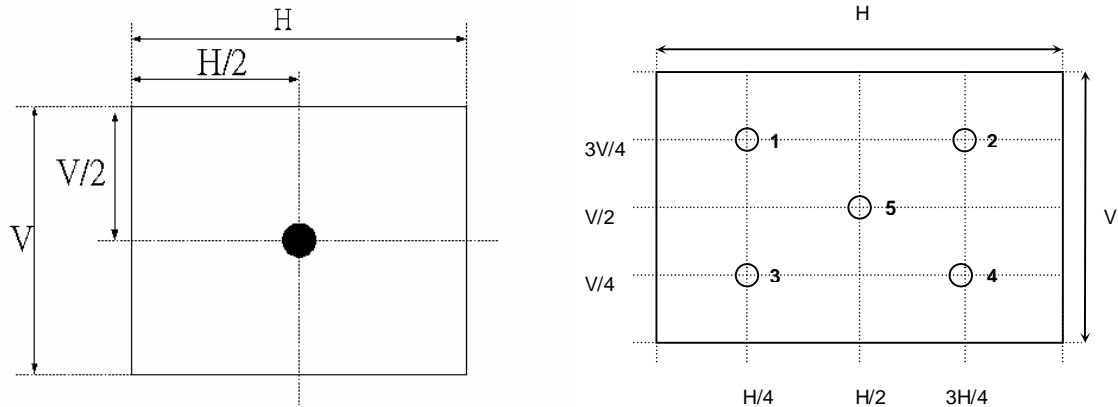

Fig.4-2 Optical measurement point
2. Surface luminance is luminance value at point 1 across the LCD surface 50cm from the surface with all pixels displaying white. From more information see Fig. 4-2. When $V_{DD} = 24V$, $I_{DD} = 6.3A$. $L_{WH} = L_{on1}$, Where L_{on1} is the luminance with all pixels displaying white at center 1 location.